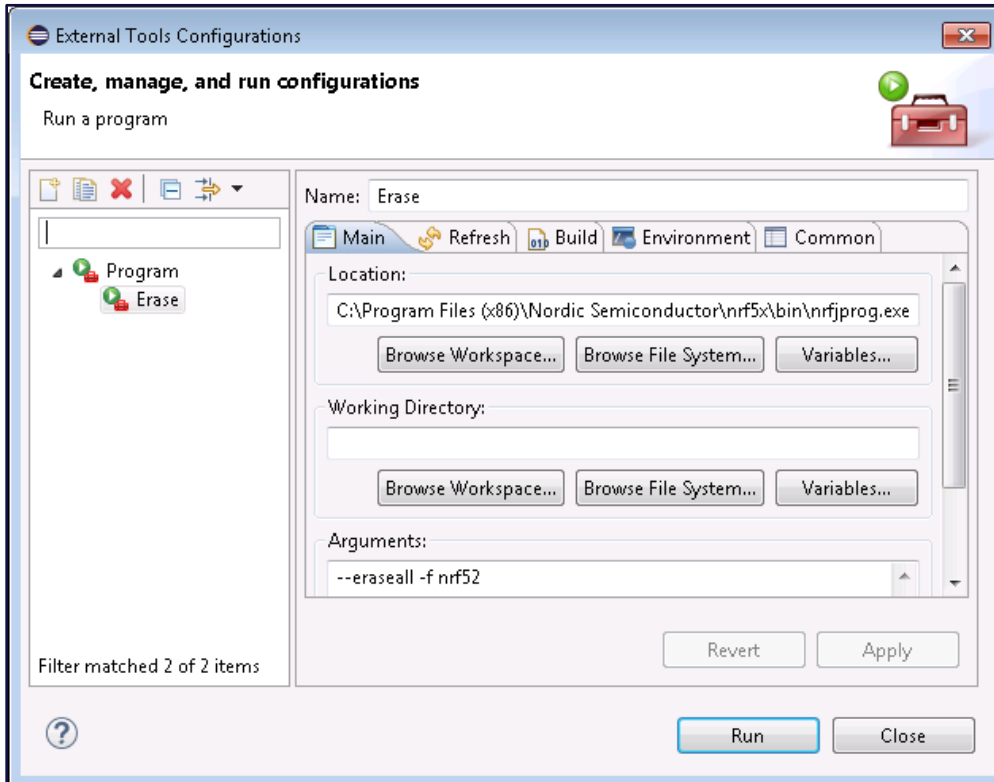

Figure 24: Adding Erase to External Tools Configurations
6. Click **Apply**, then click **Run** (Figure 24).